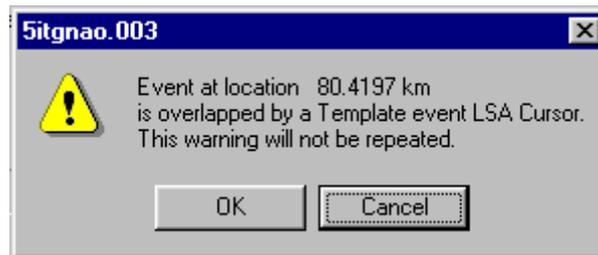

Figure 11-5: Warning Dialog
- Click **OK** to apply the splice template *without saving the traces*. The warning in Figure 11-5 may now appear indicating that the event at 80.4197 on trace 5ITGNAO.003 overlaps a template LSA cursor.